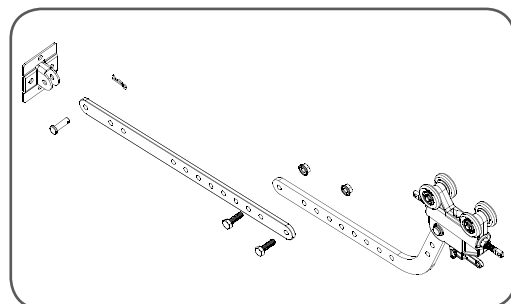

fig 07
8. Assemble the bent and straight arms with screws, plain and spring washer and nuts supplied in the accessory pack (**Fig. 07**).